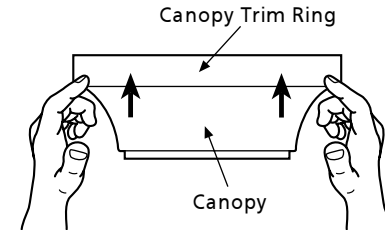

Figure 6c - Attaching the Canopy Trim Ring
3. Take both hands and push the canopy trim ring up to the top of the canopy. (See Figure 6c.)